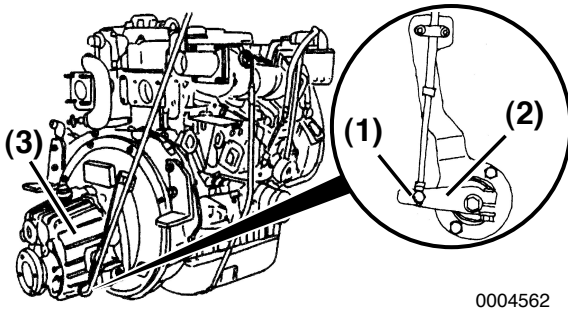
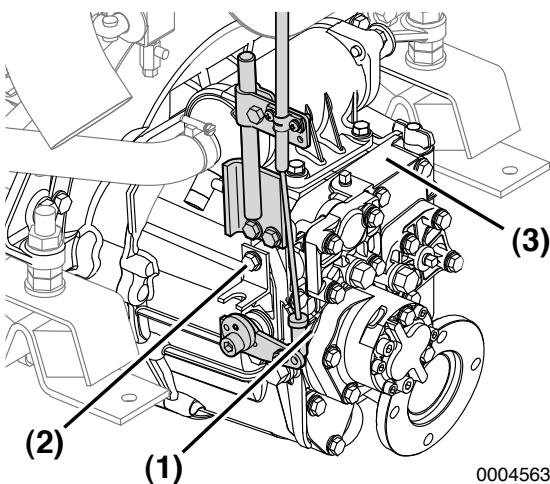

Figure 7
Figure 8
- Ensure that the remote control lever (**Figure 7, (2)**) (**Figure 8, (2)**) moves to the correct position when the remote control handle is in NEUTRAL, FORWARD, and REVERSE positions. Use the NEUTRAL position as the standard for adjustment.
- To adjust, loosen and retighten the cable fitting (**Figure 7, (1)**) (**Figure 8, (1)**).